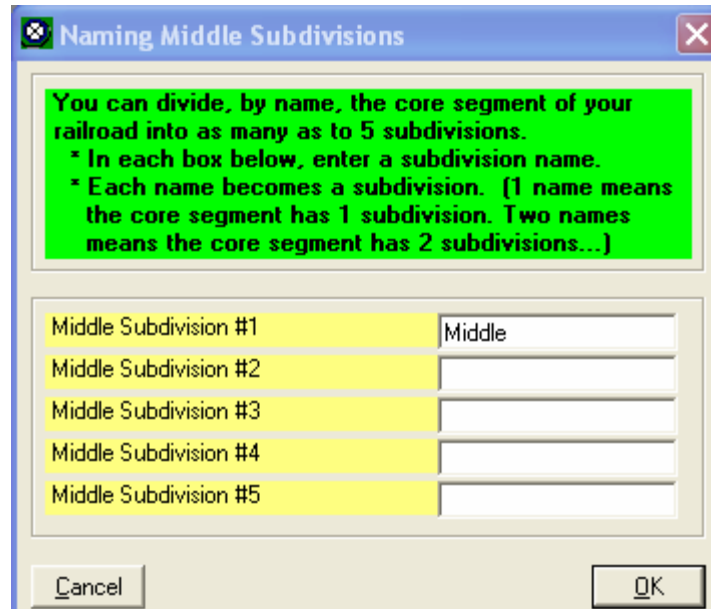

Figure 1-10
- g) Click on "Yes" and if you choose to view the subdivisions on Middle, the window displayed in Figure 1-10 will appear.